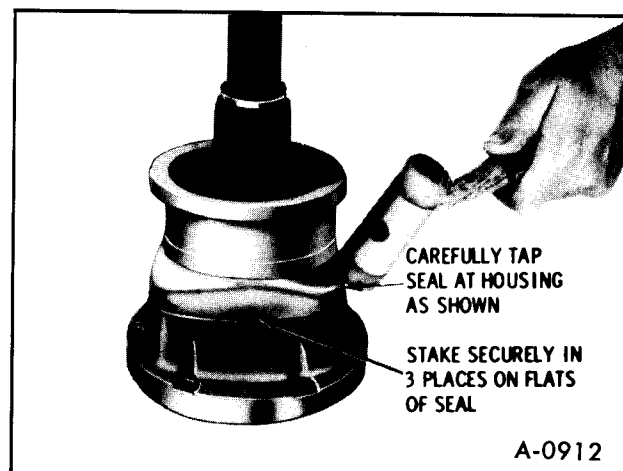

Figure 31—Installing Seal to Housing
15. With housing positioned as shown in Figure 31 tap seal retainer on three lobes alternately with plastic hammer as shown until firmly bottomed, then stake three places into staking groove.